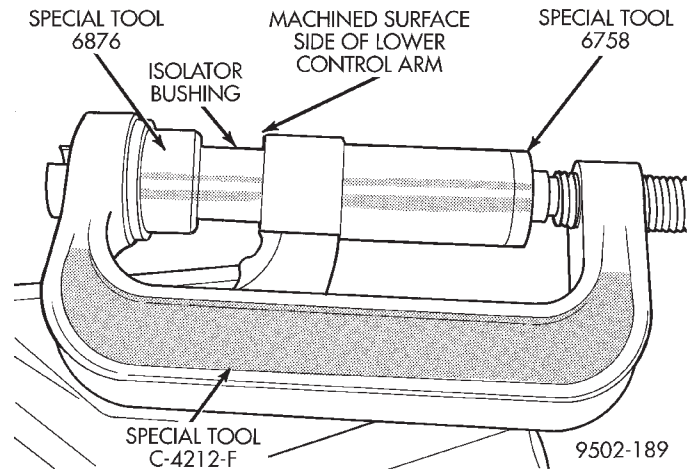

Fig. 100 Installing Front Bushing In Lower Control Arm
(1) Mount Bushing Installer, Special Tool 6876 on screw portion of Remover/Installer Special Tool C-4212-F (Fig. 100).
(2) Start front bushing into lower control arm **by hand, making sure it is square with its mounting hole in the lower control arm.** Bushing is to be installed in lower control arm from the machined surface side of lower control arm bushing hole.
(3) Install lower control arm on Special Tools assembled for installation of front isolator bushing into lower control arm (Fig. 100). Be sure Special Tool 6758 is square on lower control arm and Special Tool 6876 is positioned correctly on isolator bushing.